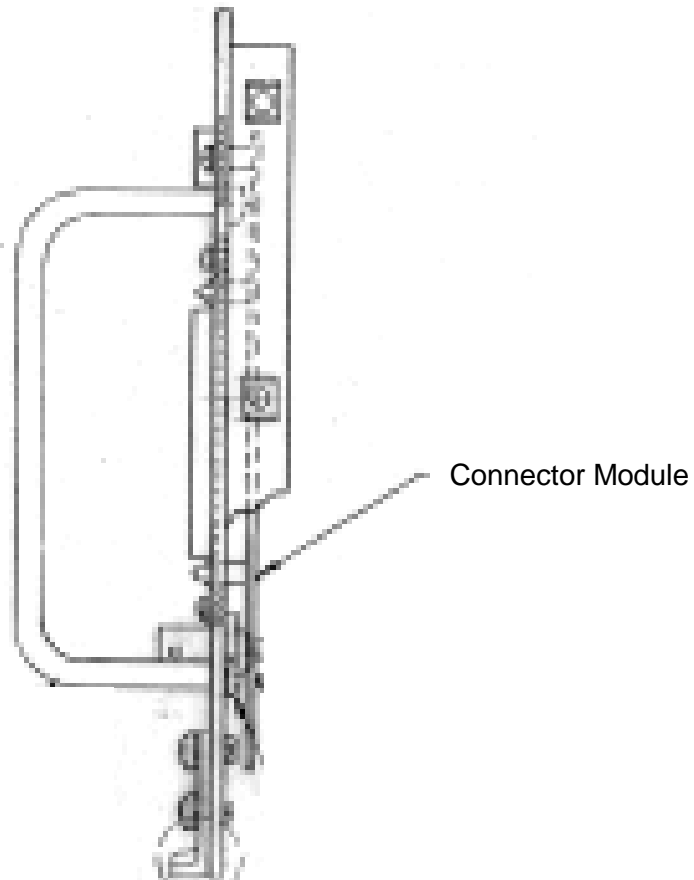

Figure 1. Connector Module Location
3. Using the Disassembly. Assembly instructions in the referenced manual, locate the connector module as shown in figure 1.